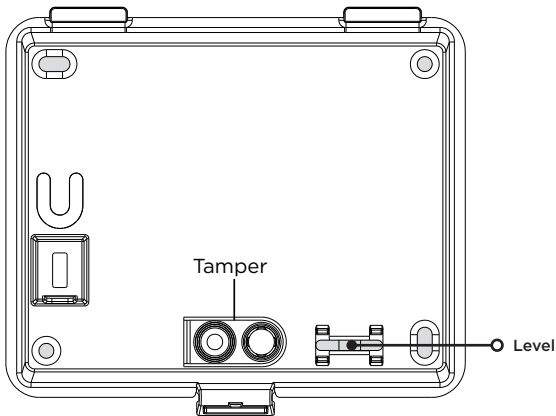

Figure 4: Mounting Hole Locations
2. Use the level and the included #6 screws to mount the backplate to the wall. See Figure 4 for mounting hole locations.